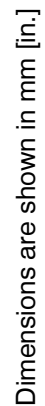

Figure 6 Dimension Drawing, Flush-Mounted Annunciator, Kit Part Numbers GM49280-KP1 and GM49280-KP1S
2. Select a location for the mounting plate that provides adequate clearance and depth for the annunciator, power supply, and connectors. See Figure 6. Use the dimensions shown in Figure 6 or use the mounting plate as a template to mark and drill holes in the mounting surface. Remove burrs and metal chips.